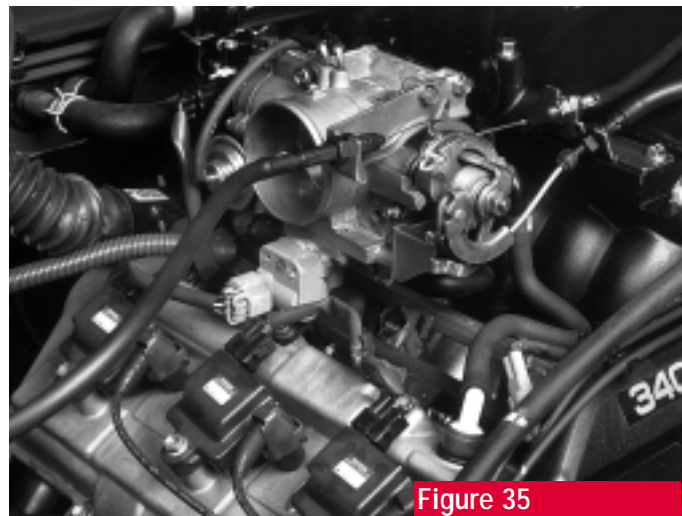

Figure 35
13. Using your diagrams, and those in the back of this manual, double check the routing of vacuum hoses, cables and brackets and correct any problems (**figure 35**).
18. Apply a TRD belt routing sticker and the Executive Order (EO) label to the underside of the hood. The EO will alert state smog inspectors that the TRD supercharger has been certified emissions legal in all 50 states.